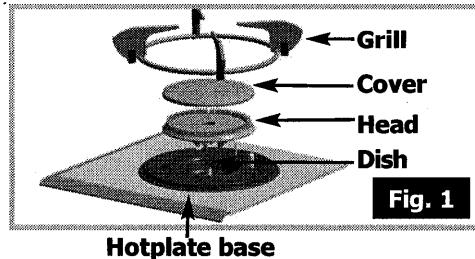

Fig. 1
- ① Adapt the gas connection
- ② Change the injectors
- ③ Adjust the retarder on the taps
① ADAPT THE HOB CONNECTION to the new gas adjustment. Refer to the paragraph "**Gas connections**".
② CHANGE THE INJECTORS in the following way:
- Using the spanner supplied, unscrew the injectors at the bottom of each dish and remove them (**fig. 1**).
- Using the spanner supplied, unscrew the injectors at the bottom of each dish and remove them (**fig 1**).